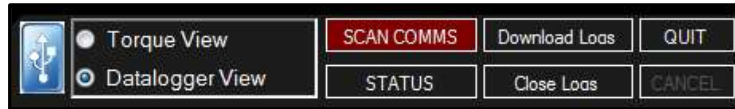

Figure 5.2-1: Scan Comms for Transducers
5. If the Transducer doesn't connect to the Software, select **"Scan Comms"** from the bottom of the screen (Figure 5.2-1). See Section 8.0 – Troubleshooting if the problem persists.